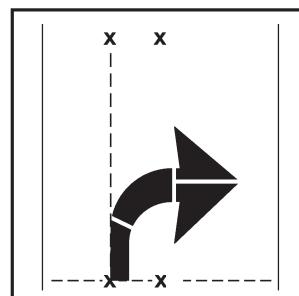

Figure 29
- Lay out the base of the straight arrow (liner still on) with the LEFT edge along the chalk line and the base corner meeting where the curve arrow begins to curve away from the chalk line (see Figure 29).